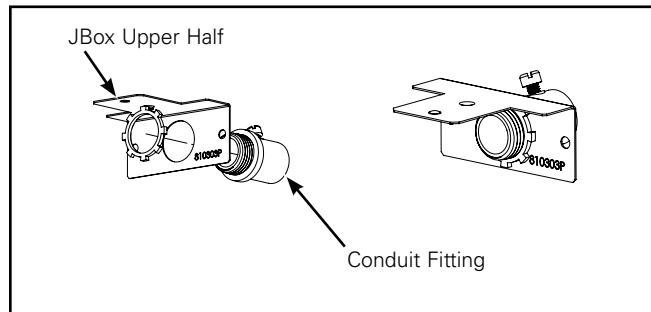

Figure 4.
4. Assemble Junction box upper half and Conduit fitting. (Figure 4.)